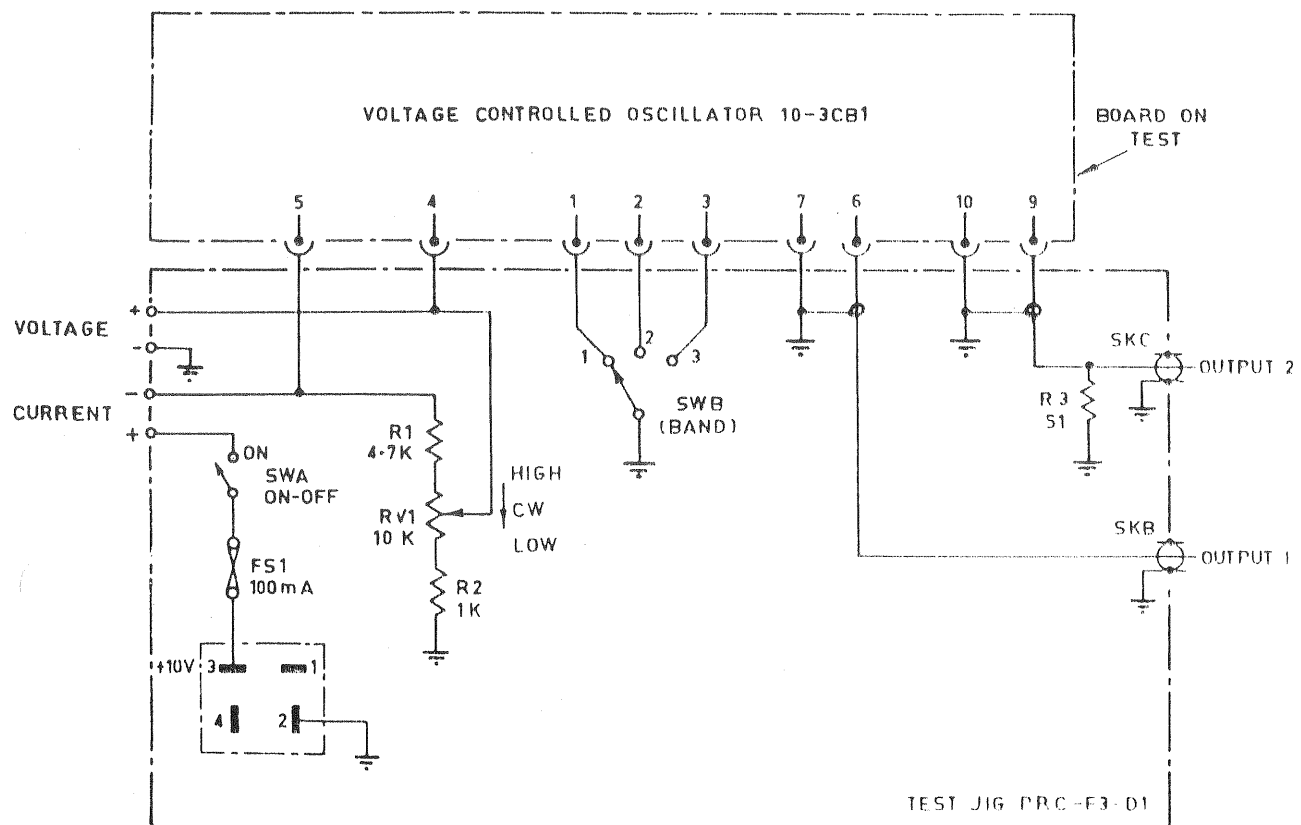

FIG 8 — TEST JIG PRC-F3-D1 (Voltage Controlled Oscillator)
- Test jig PRC-F3-D1 (See Fig 8).